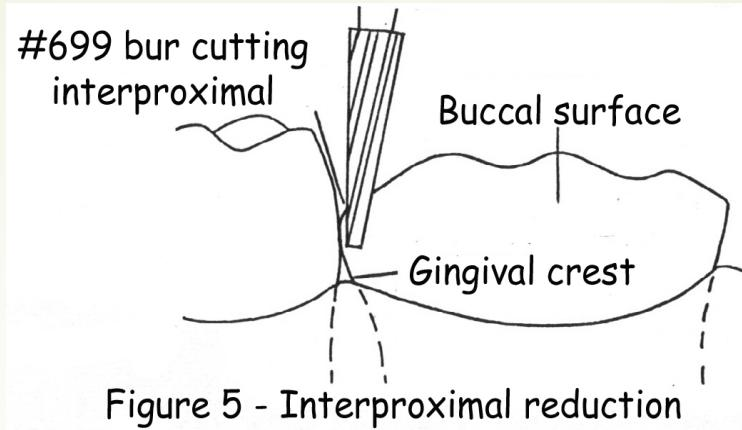

Figure 5 - Interproximal reduction
5. Proximal reduction. Hold a #699 bur slightly convergent to the long axis and reduce the proximal surfaces from one embrasure, through the contact area into the other embrasure. See Figure 5.